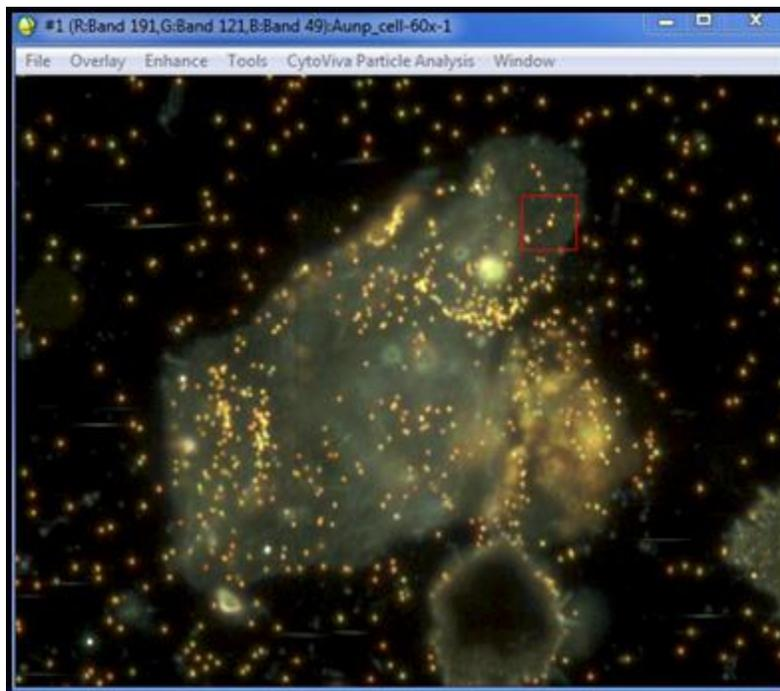

Figure 5.2a. AuNPs (inside square) in/on a cell cluster
- Move the Zoom area over the cluster of particles near the left of the tissue section (Figure 5.2a).